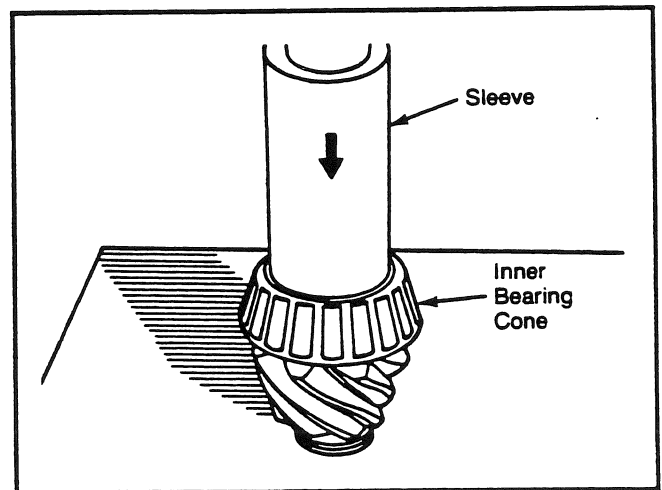

Fig. 30
2. Place the drive pinion in a press, gear head toward the bottom. Lubricate the inner bearing cone. Use a sleeve of the correct size to press the cone on the drive pinion shaft until the cone is flat against the gear head (see Fig. 30).